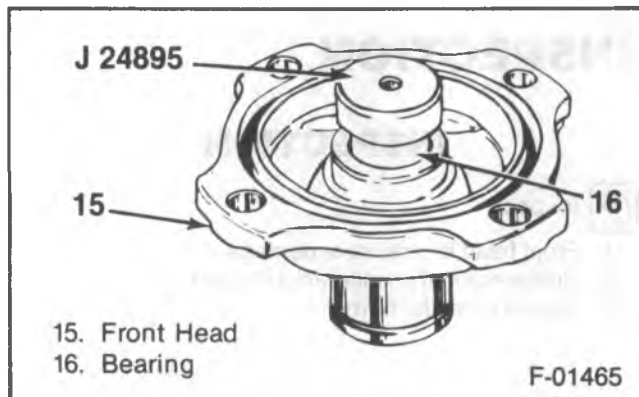

Figure 25—Installing the Bearing
1. The front head, with the neck down, on a flat surface (figure 25).
2. The bearing using J 24895 (figure 25).
4. New thrust washer with the tang pointing up (figure 25).